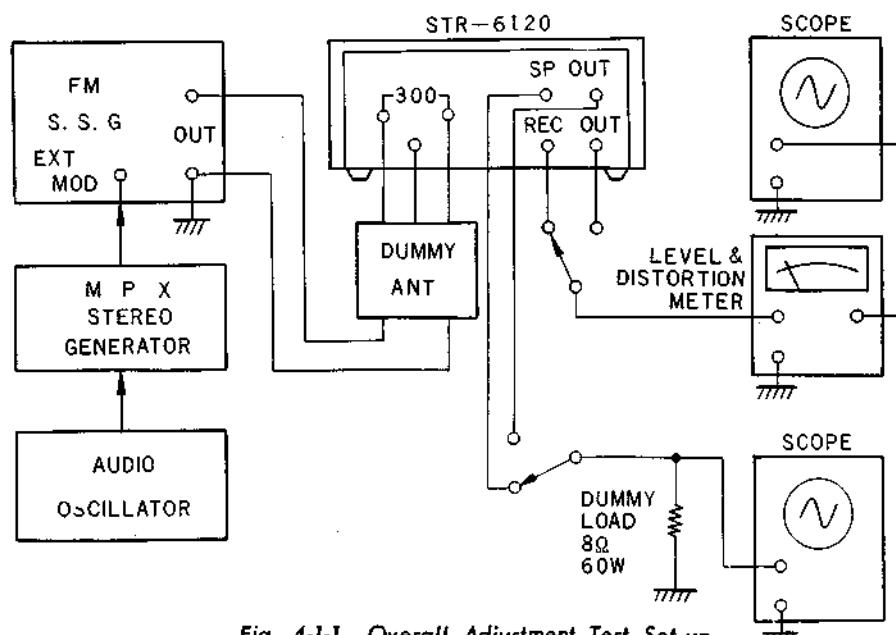

Fig. 4-1-1 Overall Adjustment Test Set-up
- (1) Connect the equipment as shown in Fig. 4-1-1.
- (2) Set the FM Signal Generator Frequency to 98 MHz, 400Hz, 100% modulation.
- (1) Connect the equipment as shown in Fig. 4-1-1; set the FM signal generator as follows:
- (a) With the equipment connected as shown in Fig. 4-1-1, set the MPX stereo generator controls as follows.
- (1) With the equipment connected as shown in Fig. 4-1-1, set the signal generator's controls
- (1) Muting Level Adjustment
- (a) With the equipment connected as shown in Fig. 4-1-1, set the FM signal generator as follows:
- (a) With the equipment connected as shown in Fig. 4-1-1, set the FM signal generator and receiver controls as follows:
- With the equipment connected as shown in Fig. 4-1-1, set the FM signal generator and receiver's controls as follows: